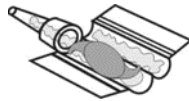

Fig.03
3. After the lens is well placed in the cartridge, ensure that it is correctly centered (Pl. See Fig.03)